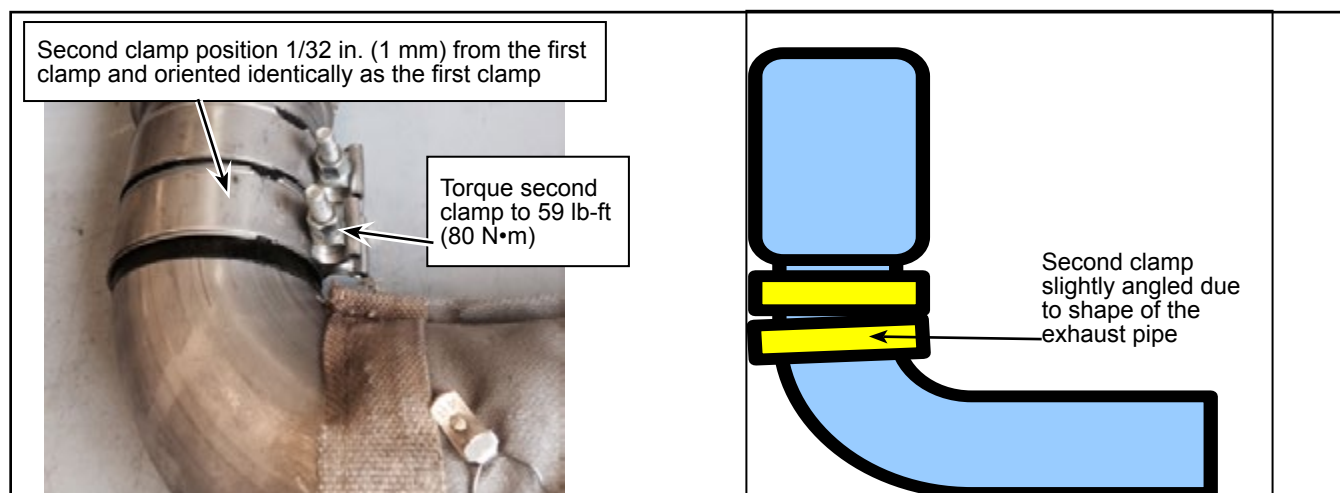

Figure 6 - Typical Position and Orientation of Second Clamp
- 1.16. Position the second clamp 1/32 in. (1 mm) from the other clamp. The orientation of the two clamps should be identical. See Figure 6 for torque value.
First clamp should sit square. The second (bottom) clamp may angle slightly at tightening due to the shape of the exhaust pipe. See Figure 6.